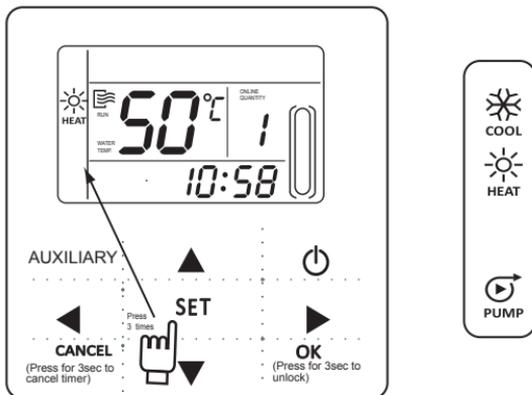

Fig.4-8
Press “SET” key 3 times to enter the working mode setting when the main unit is off power. press the “▲” or “▼” key to adjust , press “OK” key or wait for 7 seconds to be effective, and back to the main page; During setting process to press “Cancel” key then will exit without saving. See fig.4-8